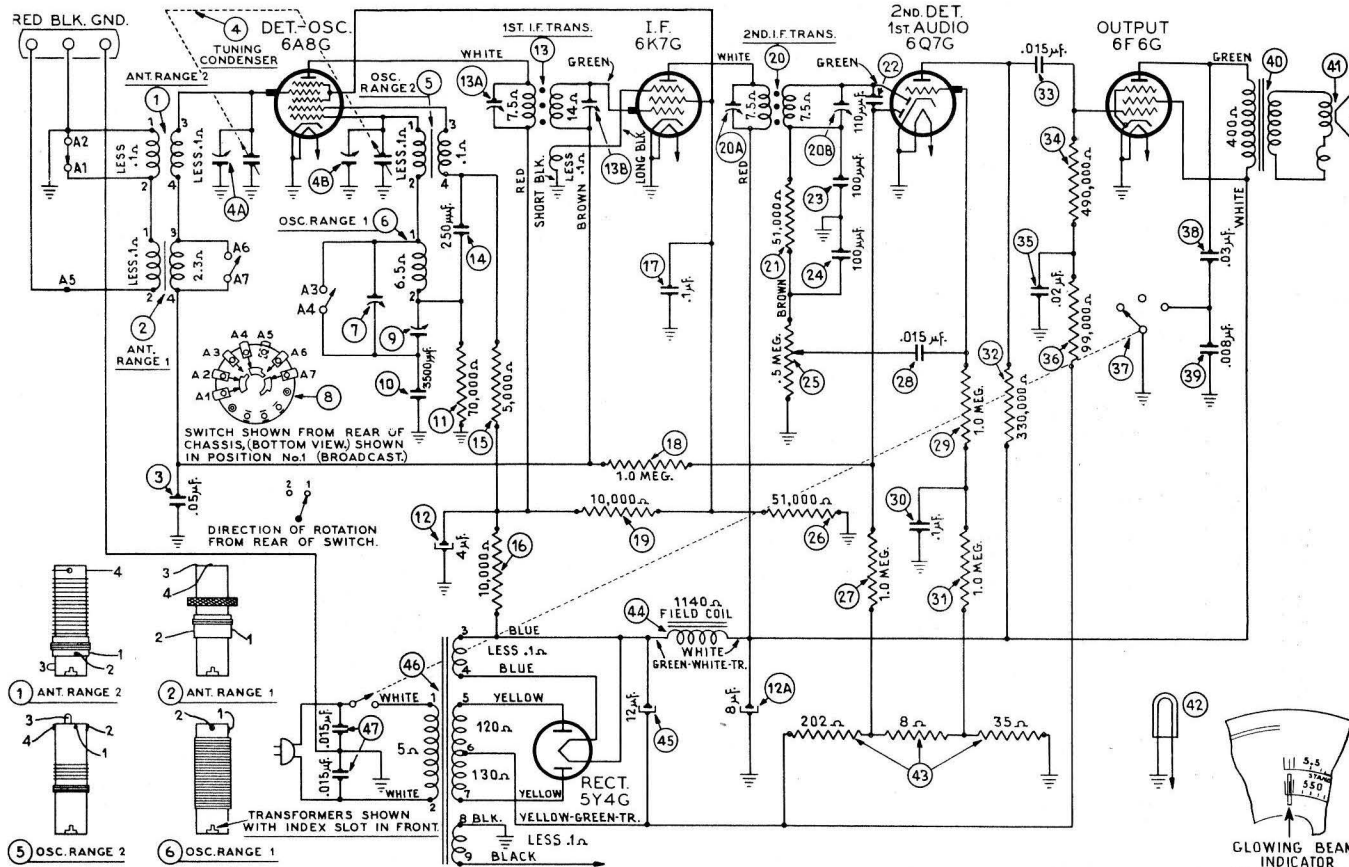

Fig. 3. Schematic Diagram 38-10, Code 121
2. Holding the tuning condenser in this position, loosen the clamp and turn the dial until the indicator is centered on the middle index line (See Fig. 3). Tighten clamp with dial in this position.